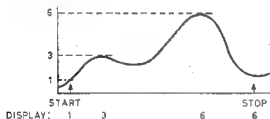

Fig. 19.  $V^{\wedge}$  measurement in MAN or EXT START mode.
- External or manual starting and stopping of a measurement (fig. 19).